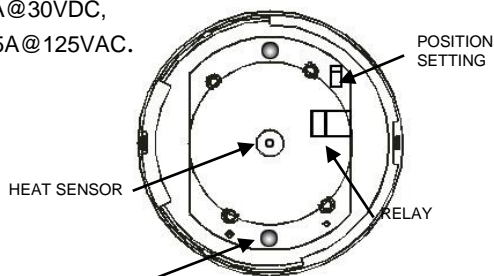

Fig. 3 Schematic of detector structure
1. To adjust the normal condition of the relay to "normally closed" (NC), insert a screwdriver into the rectangular hole located on the side between the front cover and base and rotate to remove the front cover.
2. Refer to figure 3. There is a jumper head next to the relay on the PCB. Remove the jumper head and reinsert it in the NC position.